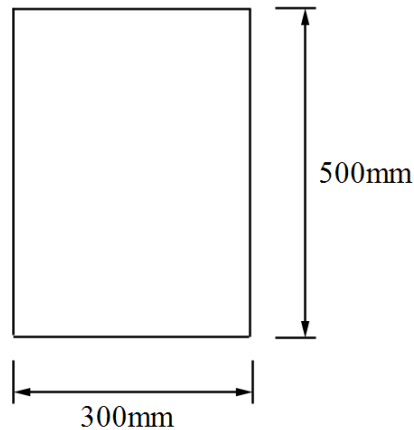

Figure B3(c) / Rajah B3(c)
- (c) **Figure B3(c)** shows a rectangular beam section carrying a shear force of 100kN. Given the second moment of area for the beam section is $3125 \times 10^6 \text{ mm}^4$.